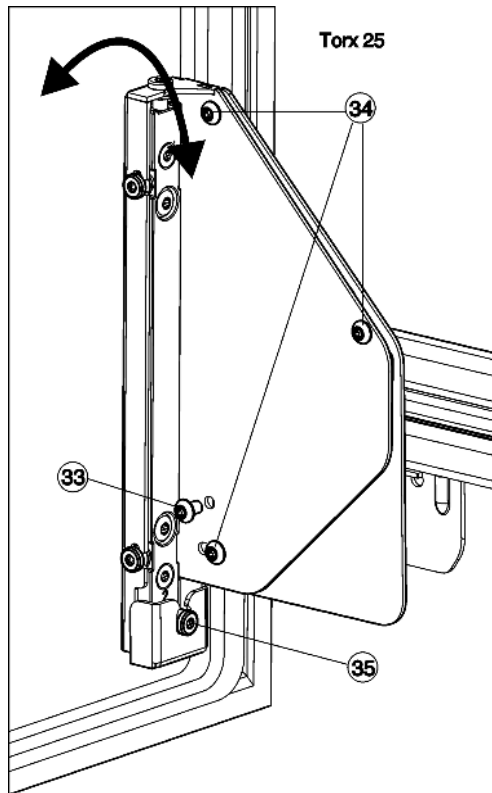

Fig. 25
- ▶ Unscrew and remove the screw Fig. 25 (34).
- ▷ Dispose of the screw Fig. 25 (34), it is no longer needed.
- ▶ Just loosen the screws Fig. 25 (34) by 1 to 2 turns.
- ▶ Turn the adjusting screw Fig. 25 (35). Clockwise: for inclination of the door away from the appliance body at the top. Anticlockwise: for inclination of the door towards the appliance at the top and away from the appliance body at the bottom.
- ▶ After having adjusted the inclination, re-tighten all the screws Fig. 25 (34).